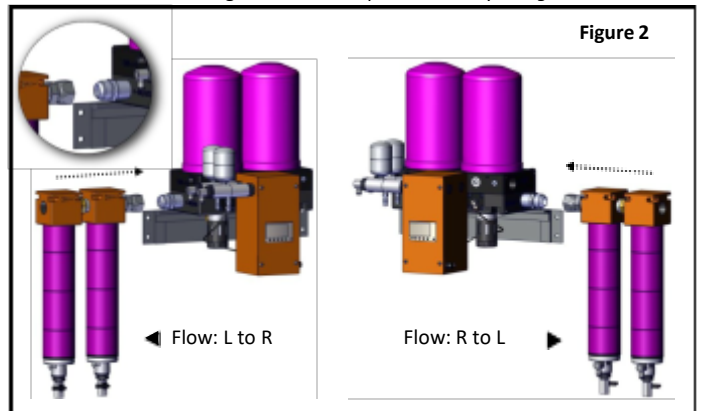

Figure 2
4. Using an adjustable or 1-3/8" wrench, connect the supplied FEMALE JIC fitting to the outlet port of the Tsunami pre-filter assembly. Use appropriate thread sealant. Figure 2
6. Using the appropriate thread sealant, install the MALE JIC connector to either the left or right INLET / AUX port of the dryer. Figure 2
3. Using an adjustable or 1-3/8" wrench, connect the supplied FEMALE JIC fitting to the outlet port of the Tsunami pre-filter assembly. Use appropriate thread sealant. *Figure 2*
4. Using appropriate thread sealant, install the MALE JIC connector to the INLET / AUX port of the dryer per your preferred flow direction. *Figure 2*